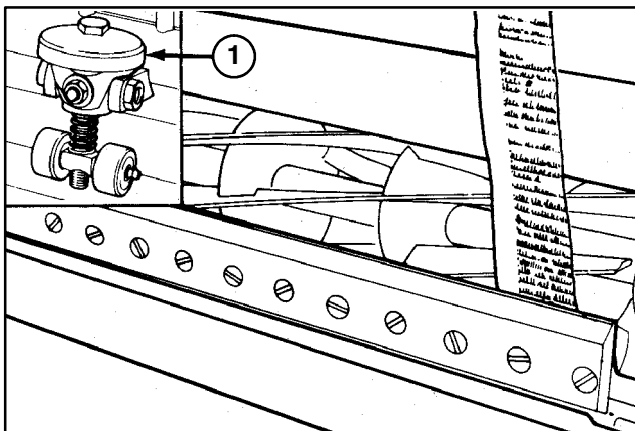

Figure 1
2. Retain (2) flange nuts supplied in loose parts for mounting reel drive motor to cutting unit.
4. Check to make sure bedknife and reel are parallel. On either end of front side of cutting unit insert a long strip of newspaper between reel blade and bedknife. Slowly rotate reel and turn bed-knife adjusting knob (using a wrench) (Fig. 1) clockwise one click at a time, until paper is pinched lightly, which results in a slight drag when paper is pulled. Check opposite end for light contact using paper. If light contact is not evident at both ends, bedknife is not parallel to reel. Refer to Parallel Bedknife to Reel, page 8.